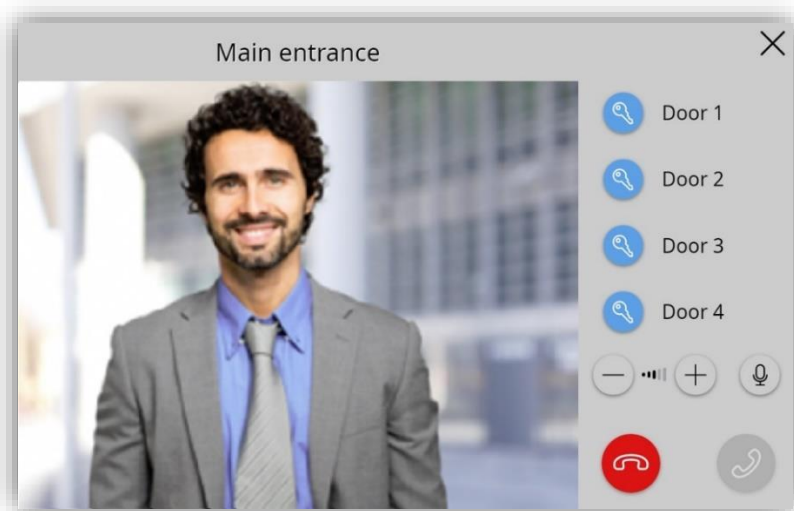

Figure 121. Ongoing call
- **Accept Call:** opens the ongoing call dialog (Figure 121) and notifies others synchronized screens in the same network that the call has been accepted:
When accepting the incoming call, Z70 v2 shows the interface in Figure 121 and starts the voice communication with the GetFace IP.